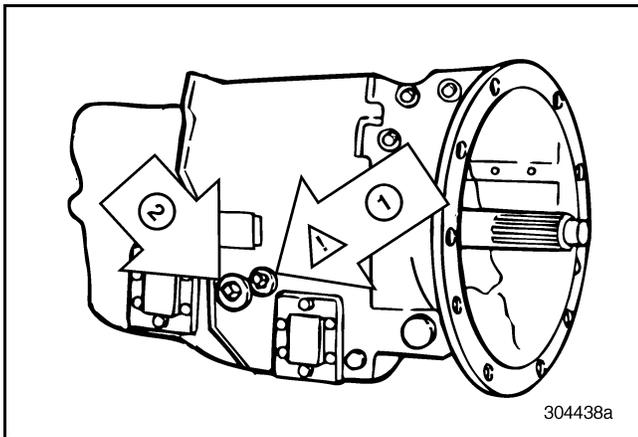

Figure 55 — Oil Filler and Check Plug
- To check the oil level in the transmission, first remove the filler plug (2) from the right side of the main case (Figure 55).
- Reinstall and tighten the oil filler plug (Figure 55) as follows: